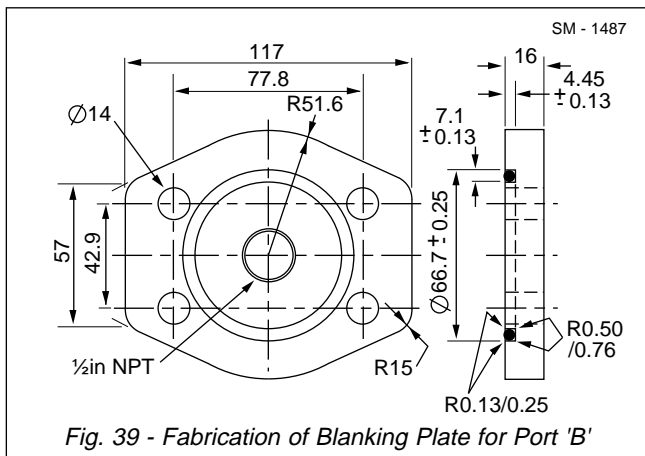

Fig. 39 - Fabrication of Blanking Plate for Port 'B'
**Note:** Refer to Fig. 36 for typical brake pressure test setup. Blanking plates for ports 'B' and 'C' may be fabricated as shown in Figs. 39 and 40.